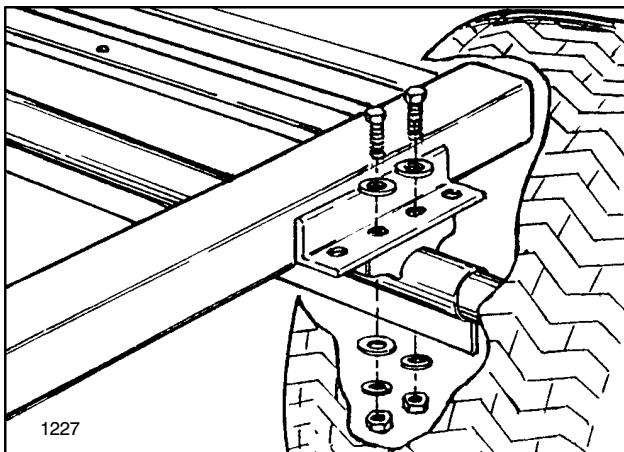

FIG. 1
2. Secure the 1/2” x 42” Agitator Hose to the 90° Barbed Elbow in bottom of Tank using (1) Hose Clamp. Assure that the Barbed Elbow is pointing to the R.H. side of Tank.
4. Secure the 1-1/4” x 36” Suction Hose to the 90° Barbed Elbow in bottom of Tank using (1) Hose Clamp.
5. Mount the Rear Axle and Tire Assembly to the Saddle Assembly as shown in FIG. 1, using (2) 3/8” x 1-1/4” hex hd. cap screws, lock washers, hex nuts and (4) flat washers on each side of the Saddle Assembly. Torque to 30 ft. lbs (41N-m). Additional holes in Saddle Assembly are for weight transfer adjustment.